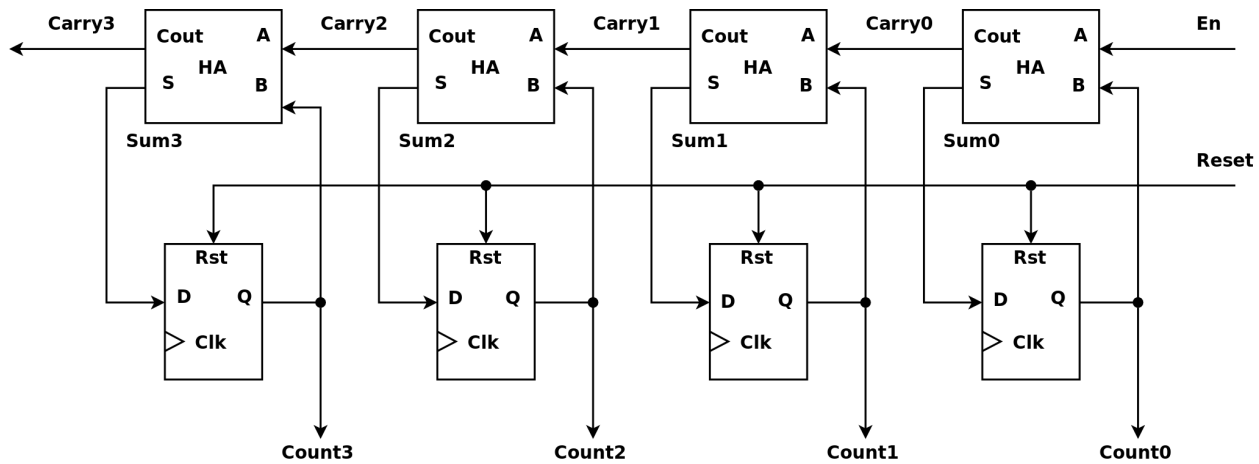

Figure 1: 4-bit Binary Up-Counter
With the components you have been introduced to at this point, you can construct a wide variety of useful synchronous circuits. One particularly important circuit we will discuss in this lab is the binary counter. A simple binary up-counter constructed from half-adders and flip-flops is depicted in Figure 1. It is interesting to note that the half-adders are chained together to create a ripple-carry adder that increments the binary value stored in the flip-flops by 1 on every rising-edge of the clock if the enable (En) is high. If En is low, the binary value stored in the counter does not change. Notice the *Reset* signal, which connects to each flip-flop in Figure 1. We have not discussed *Reset* signals yet; however, the idea is quite simple. For certain synchronous circuits, the beginning state is important. *Reset* provides a mechanism to initialize the state of a synchronous circuit. When the *Reset* signal is asserted, the flip-flops will *reset* to a known state. Typically, the *reset* state will be '0'; however, it is not uncommon to *reset* a flip-flop to '1'. Just like the clock signal, the *Reset* signal is a global net distributed to all synchronous components.
1. Supposed we want to build a 32-bit counter using the circuit in Figure 1. If the gates used to construct the half-adders in the circuit are assumed to have a 2ns delay each, and the flip-flop overhead is assumed to be negligible, what is the maximum clock frequency we could use to drive our counter? Given the clock frequency you just calculated, how long would it take this counter to roll over (i.e. return to 0). Please show your calculations.
1. Design the up-counter illustrated in Figure 1.
- (b) Create a source file called ‘up_counter.v’ and construct the circuit found in Figure 1 using Verilog. The code snippet below should help you get started.